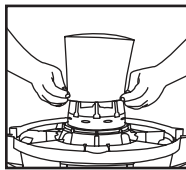

FIGURE 17
33. With tank cover in an upside down position, slide foam sleeve down over lid cage pulling until foam sleeve completely covers lid cage. **FIGURE 17.**